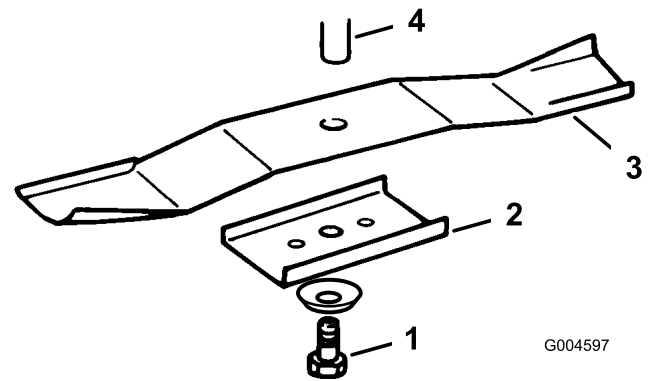

Figure 33
3. Remove the bolt (5/8 inch wrench), curved washer, retainer, and blade (Figure 33). Use a block of wood as a wedge between the blade and the mower to lock the blade when you are removing the bolt.
1. Install the blade, the blade retainer, the curved washer (cupped side toward blade), and the blade bolt (Figure 33).